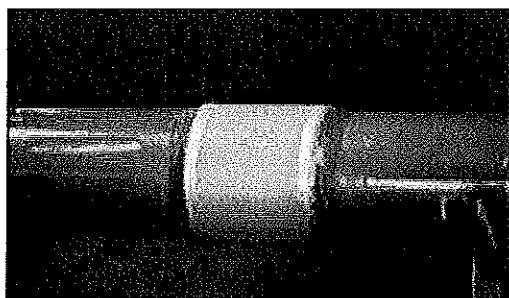

Figure 22
- 4.20 Ensure that all edges and seams have been sufficiently coated with adhesive (Figure 22). Full cure should occur in approximately 2 hours. To verify that the adhesive is cured, check for a minimum hardness of 40 on the Shore A scale. The completed Clock Spring® assembly is to be treated as a standard pipe repair requiring an external coating. The Clock Spring® is U-V sensitive. Pipe coatings for aboveground pipe must be opaque.